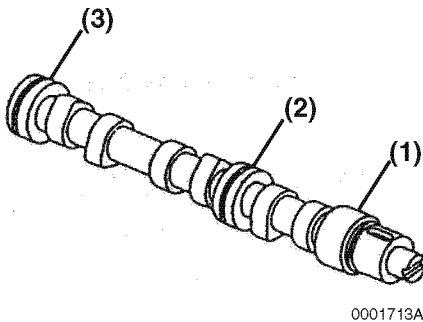

Figure 6-78
4. Measure the diameter of the gear end (**Figure 6-78, (1)**), intermediate (**Figure 6-78, (2)**), and flywheel end (**Figure 6-78, (3)**) bearing journals. Record the measurements. *See Camshaft on page 6-7 for specifications.*